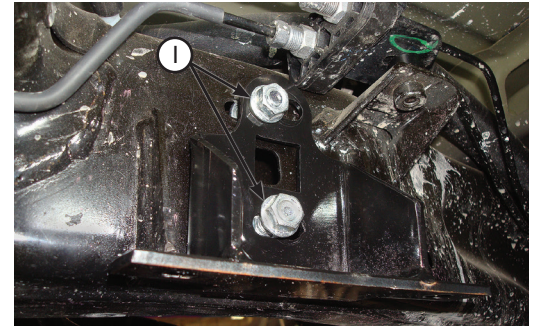

fig. D.12
- Carefully remove (twist off) the tool from the top carriage bolt first and install the 3/8"-16 serrated flange nuts (I). Tighten the nuts finger tight only (Fig. D.12). Carefully remove the tool from the bottom carriage bolt and repeat. Leave both nuts loose. Repeat for right side.